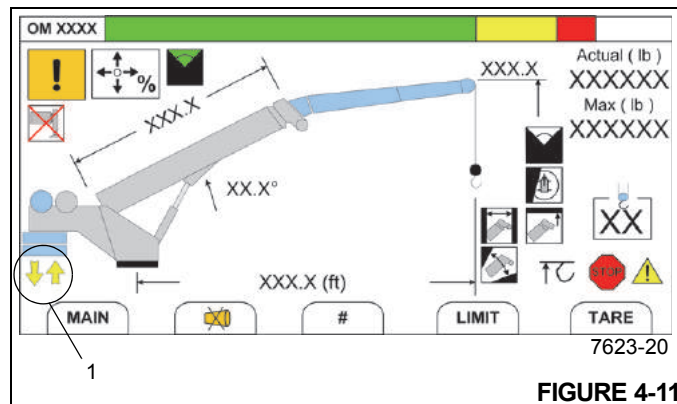

FIGURE 4-11
3. Set display in Operator's Console to the RCL Operating Mode Screen (Figure 4-11) (see *Section 7, Rated Capacity Limiter*).
4. While watching the display, rotate superstructure until Counterweight Removal Slew Position Indicator (yellow arrows) (1, Figure 4-11) appears in the display, which indicates the rear of the superstructure is nearly directly above the Removable Counterweight stowed on the carrier deck.
3. Set display in Operator’s Console to the RCL Operating Mode Screen (Figure 4-11) (see *Section 7, Rated Capacity Limiter*).
4. While watching the display, rotate superstructure until Counterweight Removal Slew Position Indicator (yellow arrows) (1, Figure 4-11) appears in the display, which